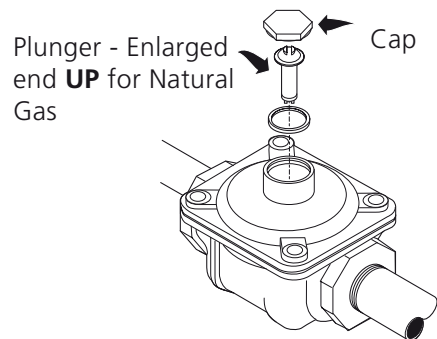

Figure 10
2. Convert the Pressure Regulator from LP Gas to NATURAL Gas (see figure 10)